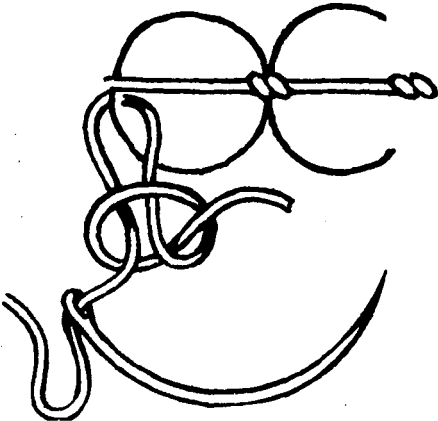

Fig. 23. Fasten rows of pocketed springs together, tying them on seam side of pockets first.
**Tie Pocket Rows Together.** Use your curved needle and mattress twine to fasten rows of encased springs together. Measure twine so it is  $1\frac{1}{2}$  times the length of each row. Start with a row of springs seam side up. Insert needle through cloth under top coil of first spring and tie a slip knot there (figure 23).